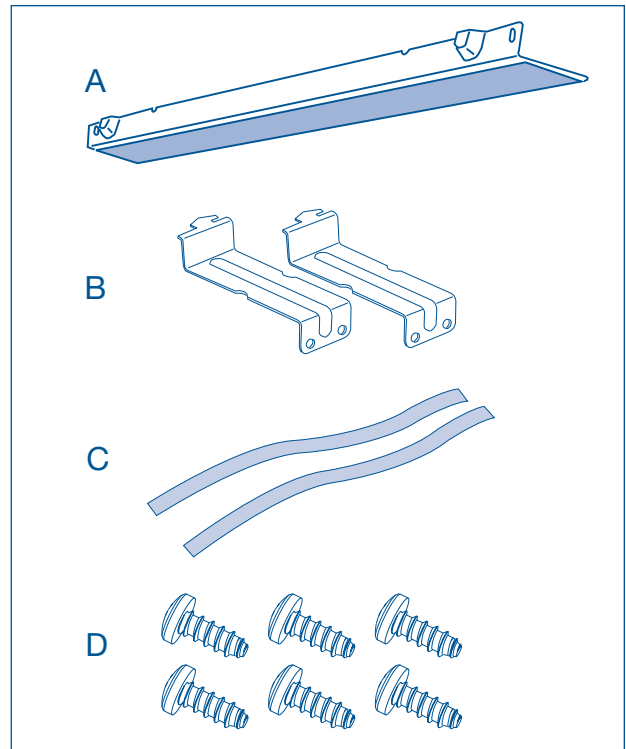

Figure 2-49.
**Kit Components:** (See Figure 2-49)
- D. (6) #10 (16 x 3.75) screws.